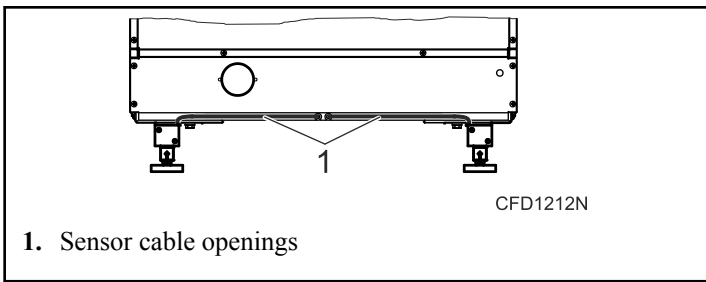

Figure 7
7. Fit the sensor cables into the prepared openings with cable fixtures. Refer to *Figure 7*.